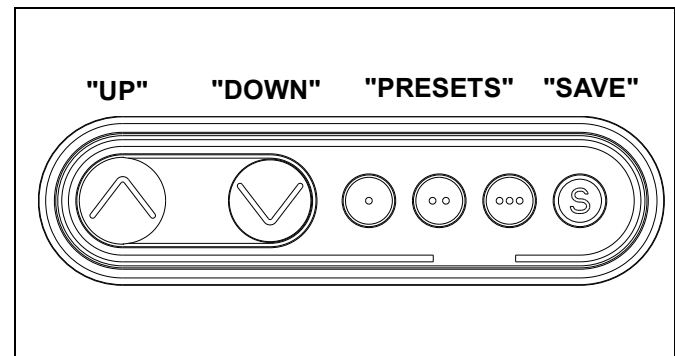

Figure 34
1. Press "UP" or "DOWN" buttons to raise or lower height as desired. (See Figure 34)
1. Adjust height until desired preset level is reached using "UP" and "DOWN" buttons. (See Figure 34)
2. Press "SAVE" button. (See Figure 34)
3. Press one of three preset buttons (., .. or ...) to save preset position. (See Figure 34)